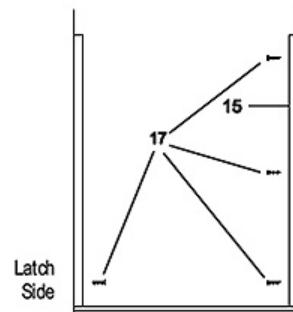
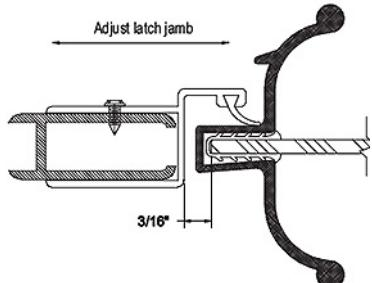

FIGURE 6
FIGURE 7
7. Set wall channels in place and secure with #8 x 1-1/4" screws (17) using bottom screw only on latch side (See figure 6). NOTE: Door is adjustable up to 1" (1/2" at hinge jamb and 1/2" at latch jamb). Example: A CD-24 door will fit an opening 24" to 25". The 1/2" adjustment should also be used to correct out-of-plumb conditions. For openings up to 24 1/2", set hinge jamb all the way over the wall channel and adjust latch jamb to meet door. For openings over 24 1/2" adjust hinge jamb out on wall channel to compensate for additional opening width.
8. Set latch jamb (18) in place over wall channel, but DO NOT SECURE!
9. Set hinge jamb with door attached (2 & 11) in place over wall channel. Adjust laterally, plumb to fit opening. Mark three holes on wall channel through the predrilled holes on hinge jamb. Drill three holes with a #31 drill bit and secure with #6 x 3/8 SMS screws (21).
10. Apply 3" vinyl channel (19) to edge of glass, centered on handle side. Tap handle (20) in place over vinyl channel.
11. Align latch jamb (18) with edge of door glass and mark wall channel (15) location on wall. Remove latch jamb and mark holes on wall. Lean wall channel to one side to allow enough room for drill and drill the remaining two holes on wall. Insert wall anchors (16).
12. Replace wall channel and secure remaining two holes in wall channel using two #8 x 1-1/4" screws (17).
13. Replace latch jamb over wall channel. Close door and adjust latch jamb 3/16" from edge of glass (See figure 7). Through the holes provided in the latch jamb, drill three #31 holes in wall channel. Secure latch jamb to wall channel with #6 x 3/8 SMS screws (21).
14. Set catch (22) in place on latch jamb (18) and secure with #6 x 1/4" screws (5).
15. Adjust drip trough (7), up at latch side of door and down at hinge side of door so water will drain into shower when door is opened. Adjust splash vinyl (6) to within 1/8" of curb. NOTE: Splash vinyl should not touch curb.